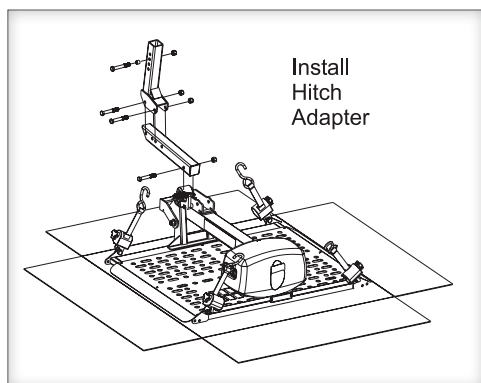

Figure 15-2
**3. Determine / Install Hitch Height / Adapter.** Measure the hitch to ground distance so you can save time by selecting components that fit between lift and vehicle so as to maintain proper ground clearance. [Figure 15-2] Install Hitch Adapter that fits the application. See pages 21 to 25.